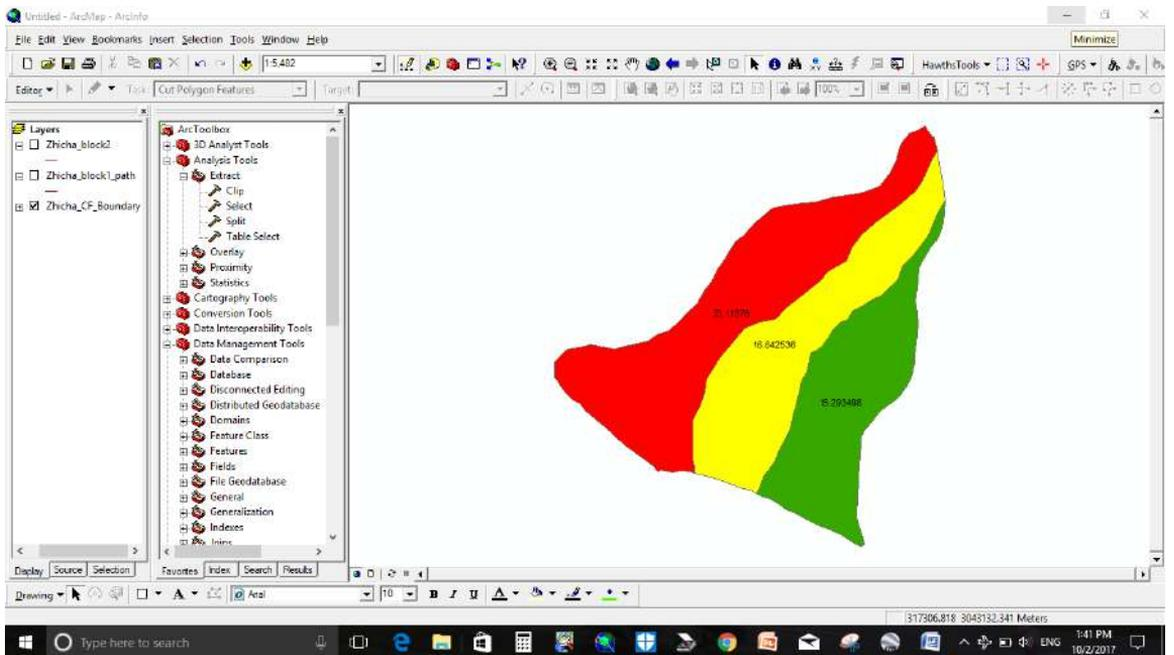

Figure 7a
4. Using **split tool** under Analysis Tools, split the polygon on the path file we have created and save it. Complete and task and calculate area from attribute table (see figure 7a, 7b and 7c).